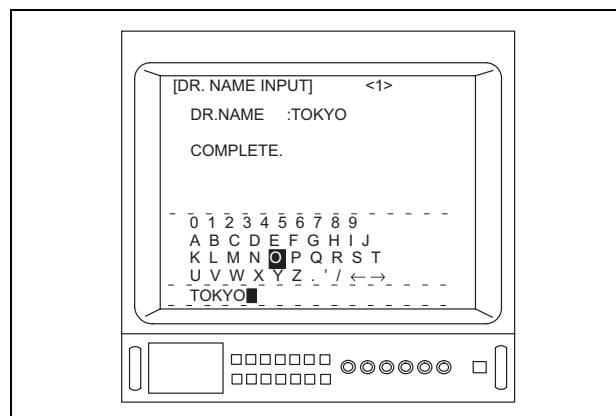

Figure 5.76
13. Depress the menu switch “” or the “Enter” key on the keyboard to enter the user’s name. The menu shown in Figure 5.76 is displayed.